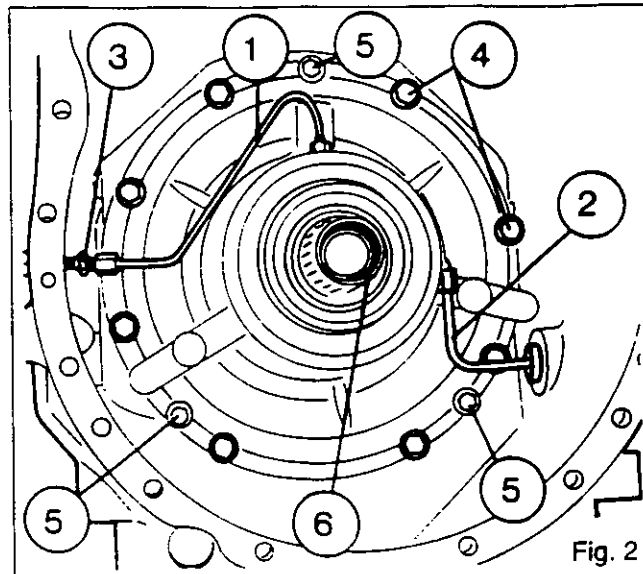

Fig. 2
4. Remove bleed pipe (1), supply pipe (2) and connector (3) (plug the openings into the passages) (Fig.2).
6. Unscrew the 8 x 10 mm bolts (4) (Fig.2).
**N.B.: Do not unscrew the three bolts (5) (Fig.2)**